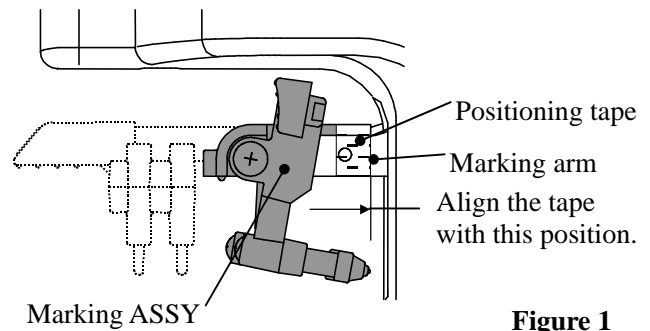

Figure 1
- 1) Affix the positioning tape for the marking ASSY on the marking arm. Refer to Figure 1 on the right for the tape position to be affixed.